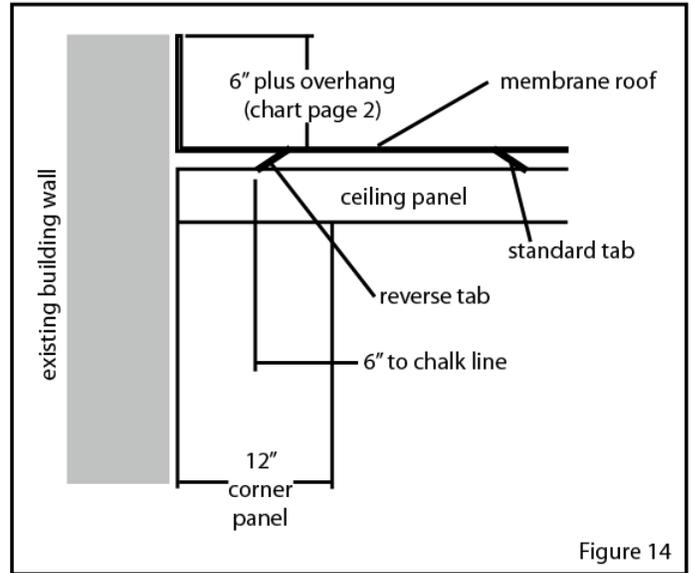
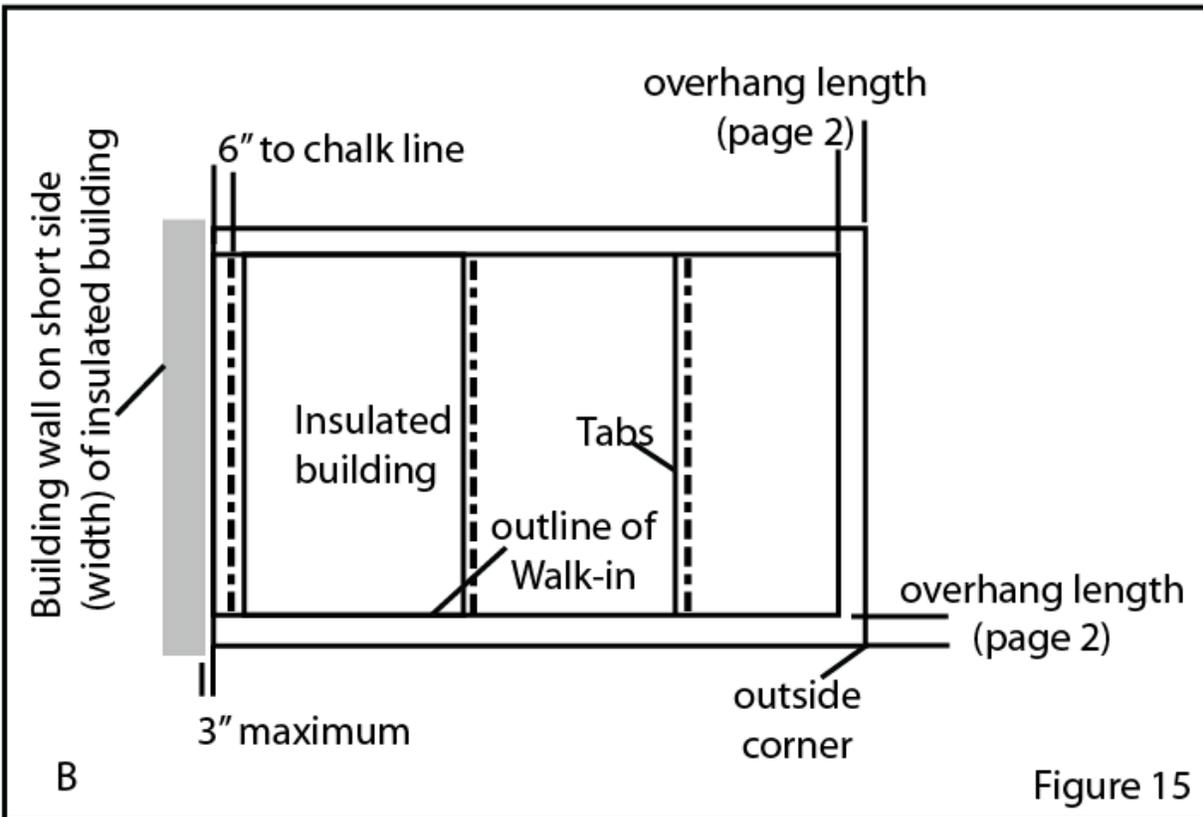

Figure 14
Figure 15
1. The length of your roofing material will be 6" longer than the length shown in the chart on page 2. These 6 inches are added to the reverse tab side. See Figure 14. Note: Tabs will run parallel to building wall. (See Figure 15) Space between building wall and existing building must be flashed first. Perforated material is recommended to allow circulation if Bally building is a cooler or freezer. (See Figure 10)